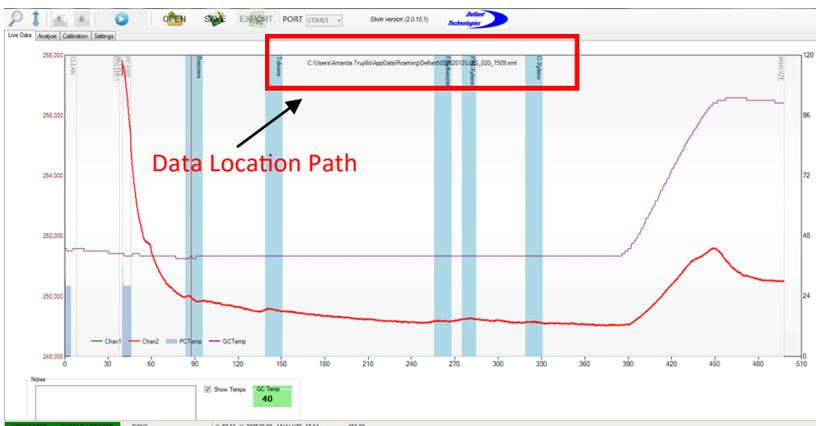

Figure 4.7-2: Live Data Window with chromatogram and data location path.
12. The computer screen now displays a chromatogram of the file data as it is imported into Ellvin. At this time, Ellvin also converts the data to an XML format and stores it. The location path of the stored data is displayed at the top of the chromatogram in the Live Data Window (Figure 4.7-2). The data can now be opened in the Analyze Window.